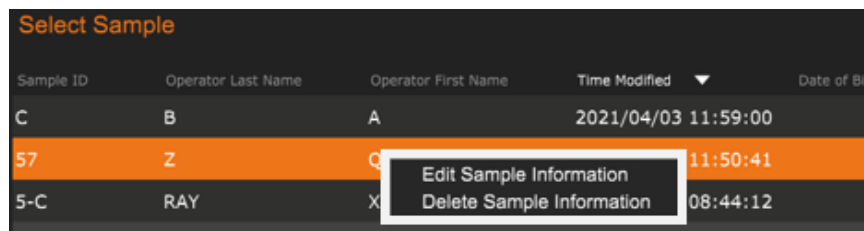

Figure 125: Edit or Delete Sample Information Menu
1. Right click on the sample in the Sample List to open the on-screen menu shown in figure 125.